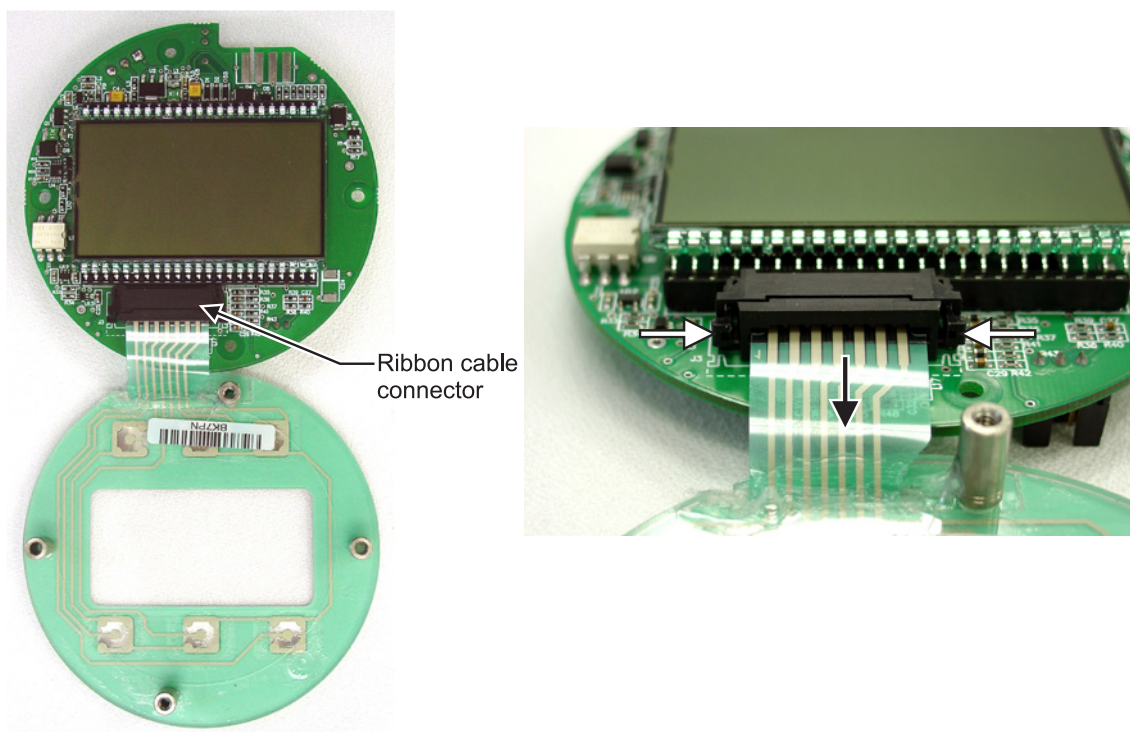

Figure 5.4—To release the ribbon cable from the connector, press in on the side tabs of the J7 connector (white arrows) and gently pull forward (black arrow).
10. Remove the keypad ribbon cable from the J7 connector on the LCD side of the circuit board by pressing in on the sides of the black plastic clip and pulling gently on the clip. Do not pull on the ribbon cable; the cable will release freely when the clip opens (Figure 5.4, page 82).
- a. Grasp the black clip between a thumb and forefinger (Figure 5.4, page 82).